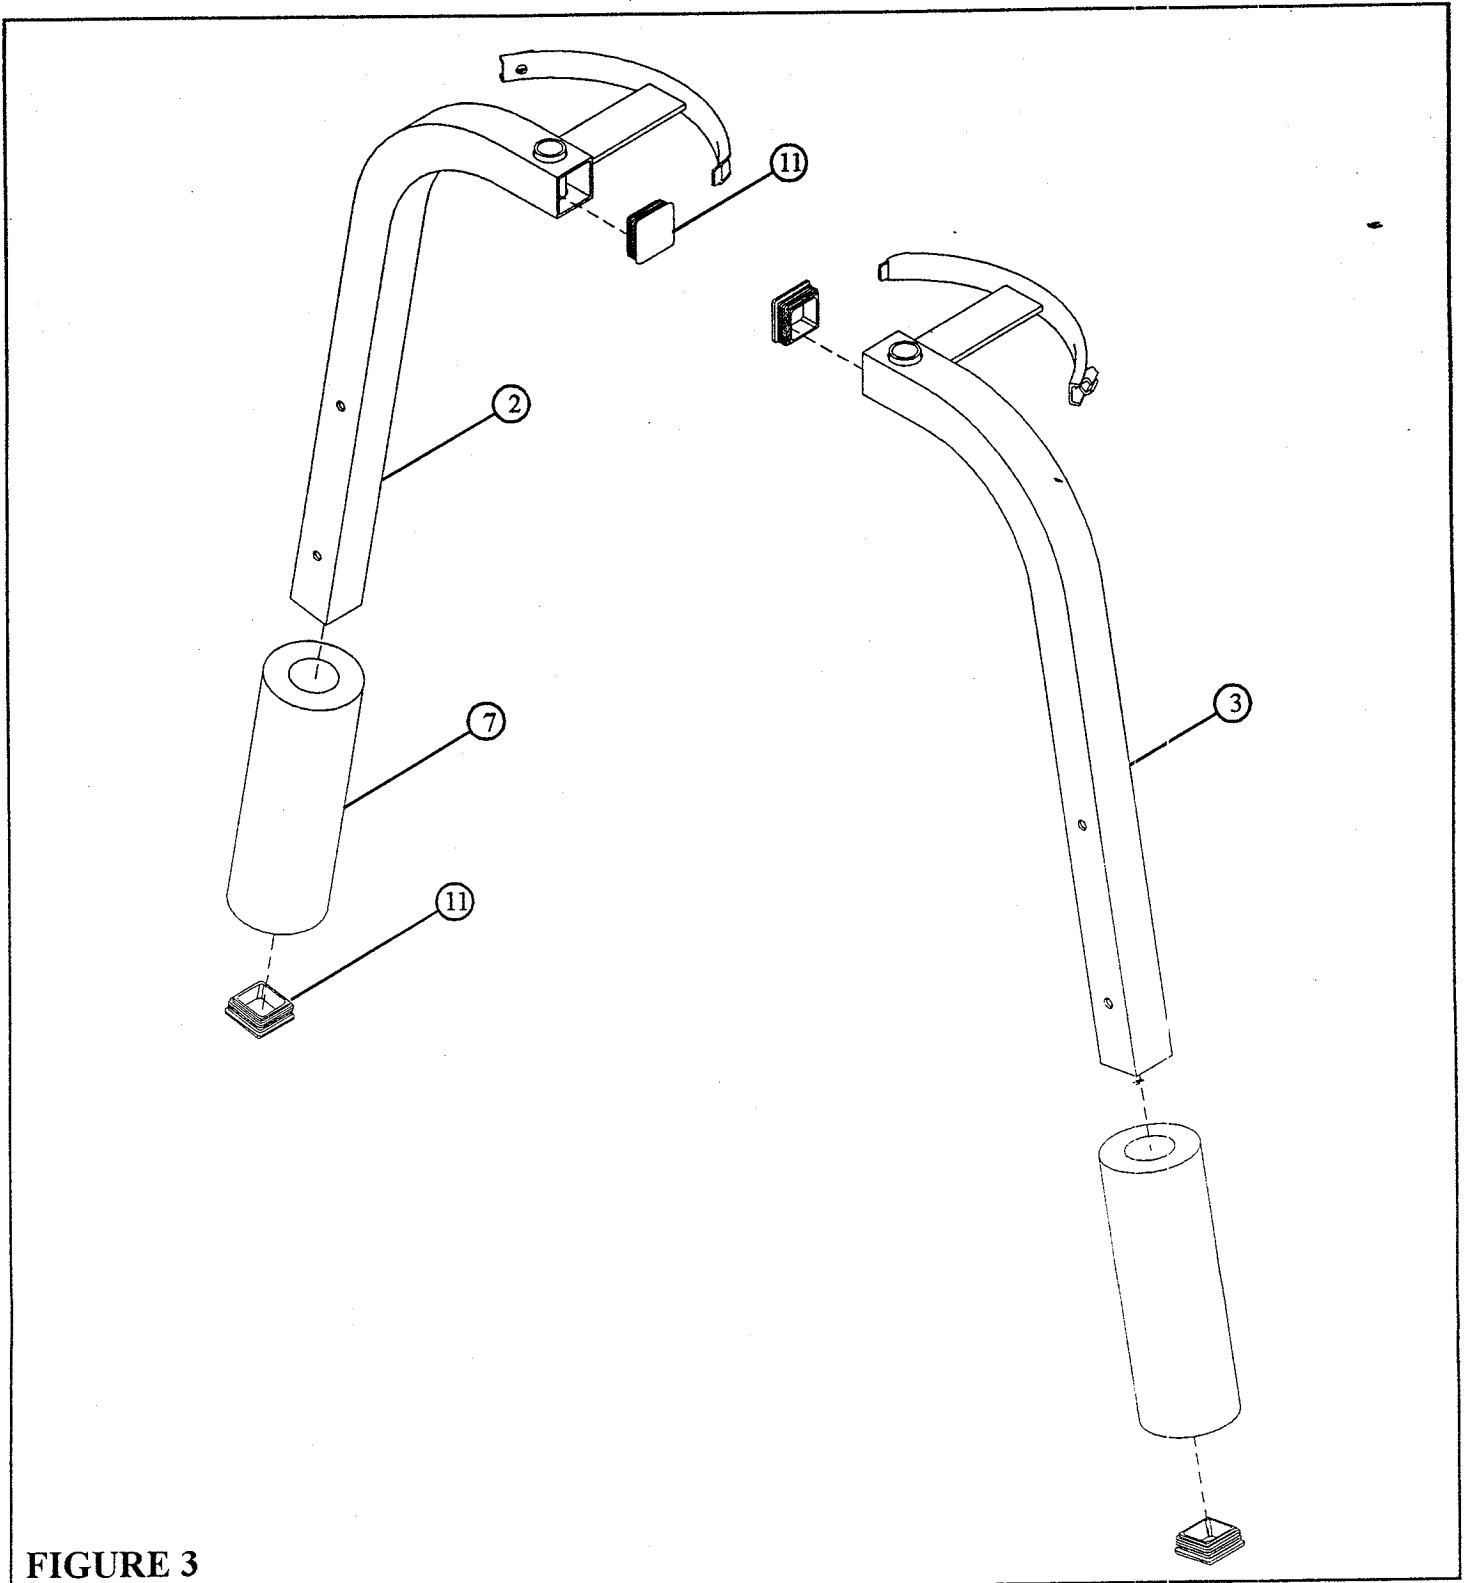

FIGURE 3
- Insert four 2" SQ. END CAPS (11) into the ends of the LEFT and RIGHT PEC DEC ARMS (2 & 3) as shown in FIGURE 3.
- Assemble two 4 X 12" ROLLER PADS (7) to the LEFT and RIGHT PEC DEC ARMS (2 & 3) as shown in FIGURE 3. (**TIP:** Spray window cleaner on the inside of the roller pad to help ease assembly.)